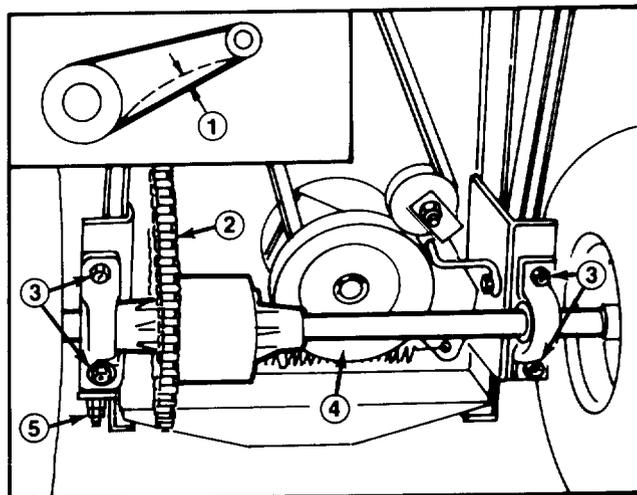

Figure 26
1. Check deflection of drive chain by lifting up on chain with moderate pressure at mid span (Fig. 26). There should be 1/8 of an inch (3 mm) deflection (Fig. 26). If deflection is not as specified, an adjustment is required — steps 2-13.
5. Shift transmission into 1st gear and engage the parking brake. Tip rider onto its rear end so chassis is on top of 2" x 4" blocks (Fig. 26). Wheels must be off the floor so axle can be moved.
6. Loosen four flange nuts securing pillow blocks w/ differential axle to the rider frame (Fig. 26).
7. Loosen rear jamnut on chain tensioner (Fig. 26).
10. Since differential axle must be parallel to rear of chassis, measure distance from center of pillow blocks to rear of chassis (Fig. 26). Difference between the two measurements must not exceed 1/4 inch (6 mm). If difference exceeds 1/4 inch (6 mm), differential axle is not parallel with chassis; therefore left side must be repositioned to attain desired dimension. Tighten locknuts securing left pillow block to rider frame.